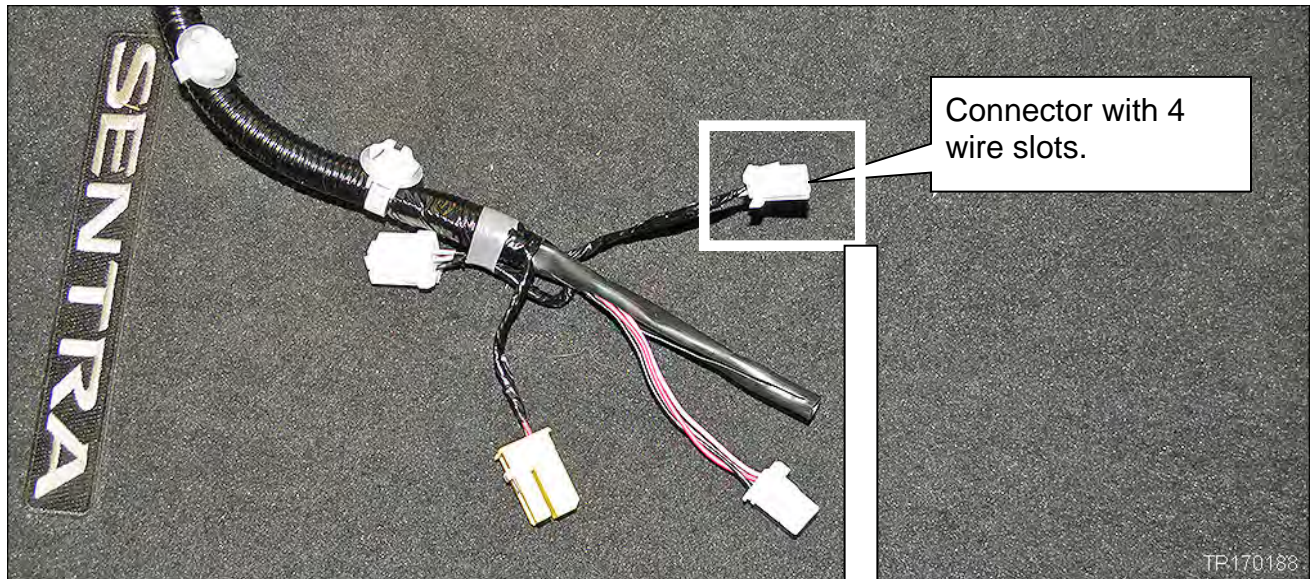

Figure 6
13. Select the connector shown in Figure 6:
- Light Green (LG)
- Black (B)